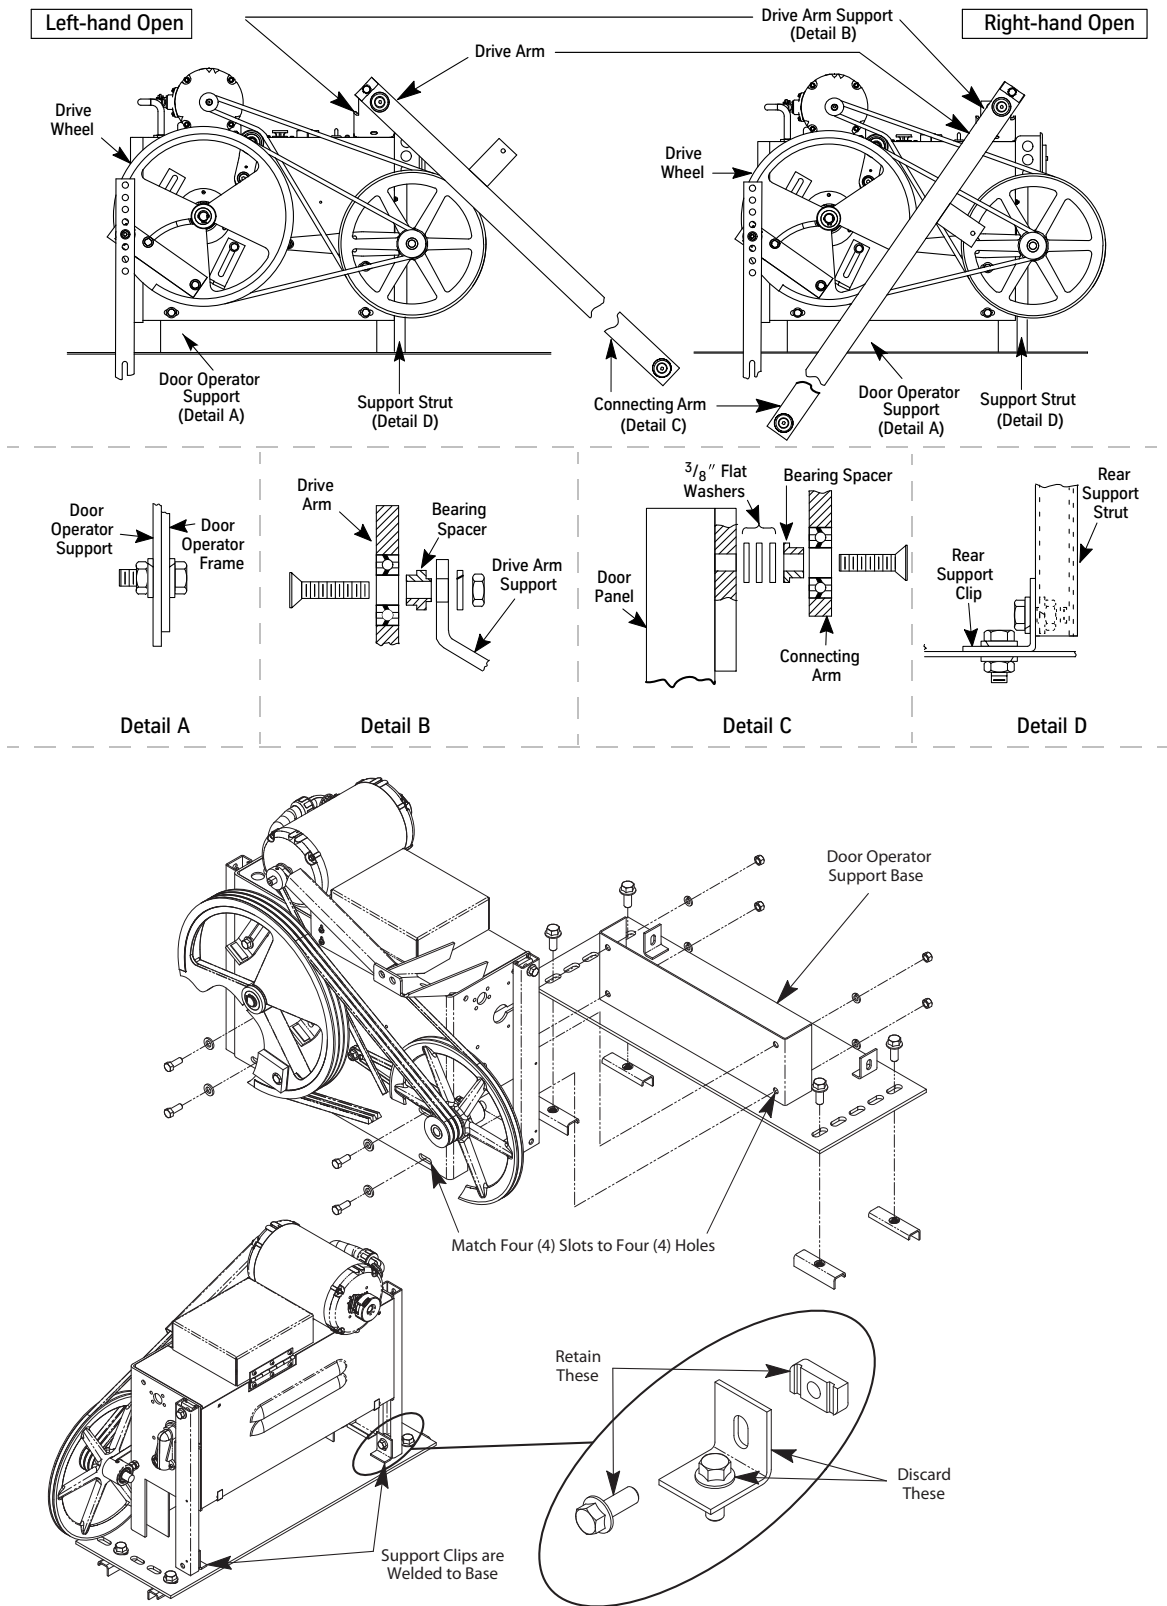

Figure 4 - Door Operator Mounted on the Door Operator Base
2. Measure the distance from point **B** to point **C** and record this measurement as Door Open (DO). See Figure 4 for all steps in this procedure.
4. Measure the distance from point **B** to point **C** and record this measurement as Door Closed (DC).